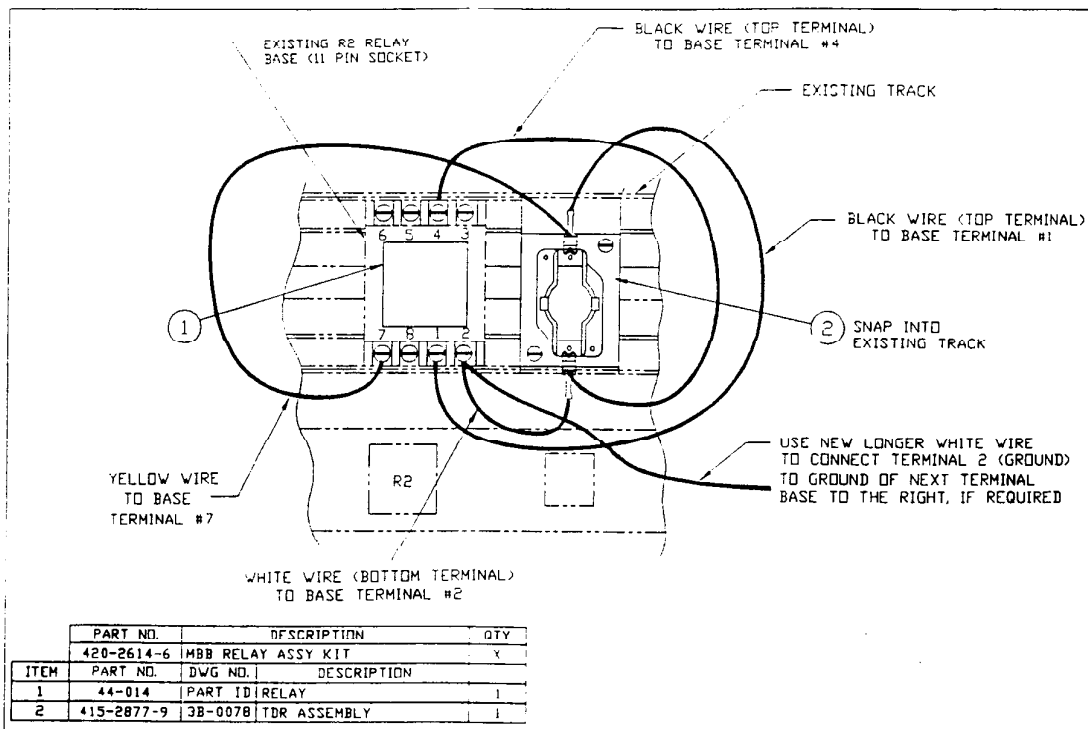

Figure 2. R2 (MBB) Relay Assembly Kit - Models AB-120A, AB-180A, and AB-250A.
4. See figures 2, 3, and 4 for Relay Assembly Kit diagrams and electrical schematics.